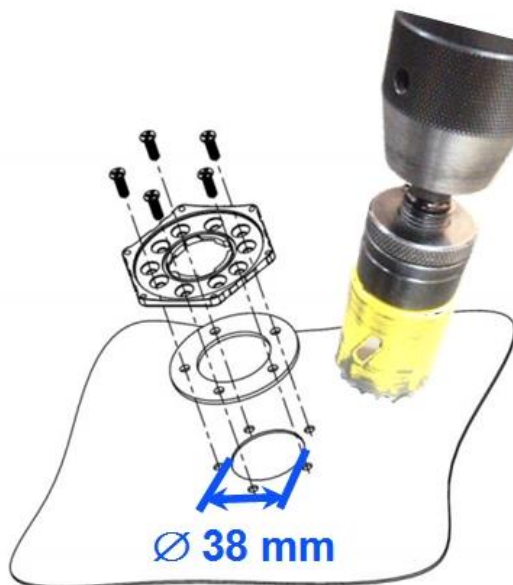

fig. 4.2. Drilled hole for sensor
1. Mark the center point and drill holes for the measuring electrodes with a 38 mm bimetal drill bit (fig. 4.2).